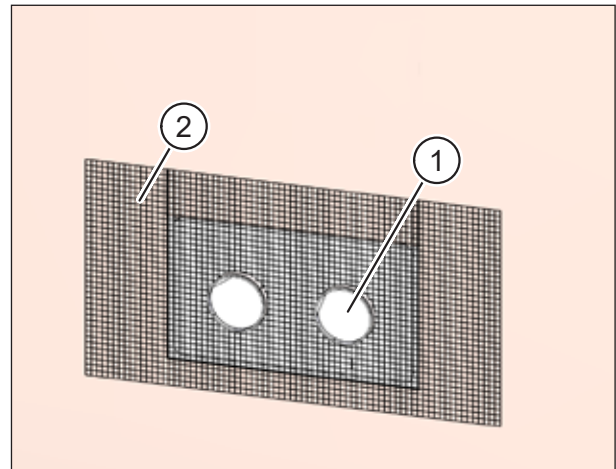
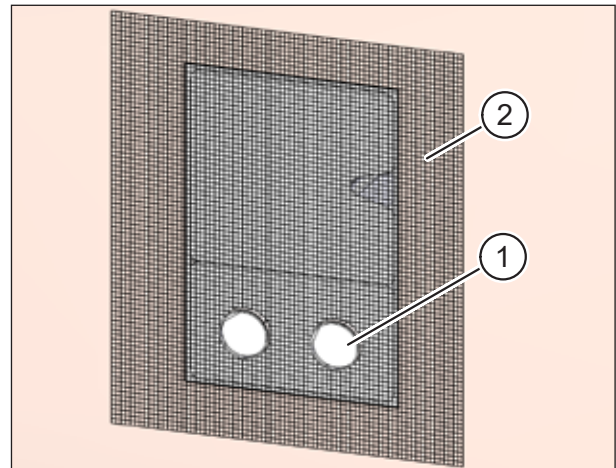

Fig. 36: Plastering the installation kit **without** filler piece
Fig. 37: Plastering the installation kit **with** filler piece
- ▶ Insert the protective sleeves (item 1 in Fig. 36 and Fig. 37). They should extend beyond the solid wall so that they will end flush with the subsequent plaster coat. The protective sleeves provide the bonding surface for the external plaster.
- ▶ Apply the plaster scrim (item 2 in Fig. 36 and Fig. 37) to the outside of the wall box, to the masonry and to the facade insulation.